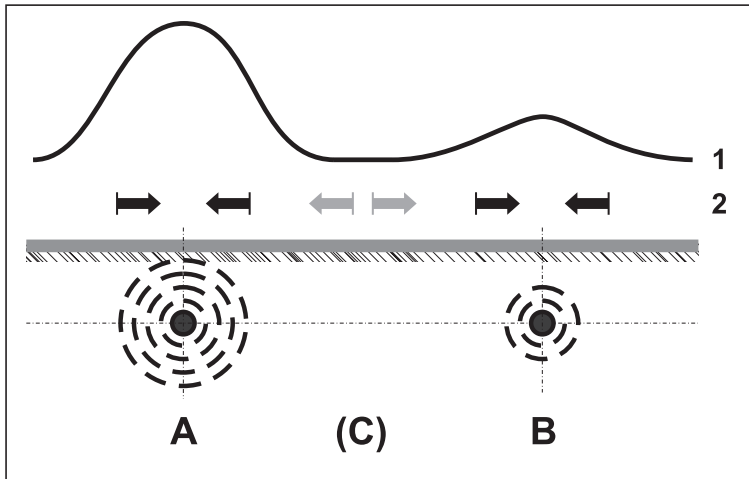

Fig. 29: Location situation with adjacent lines
Fig. 29 shows a location situation with an additional line B close to the line to be located, line A. Line A is galvanically energised. The signal curve (1) shows a maximum above each line.